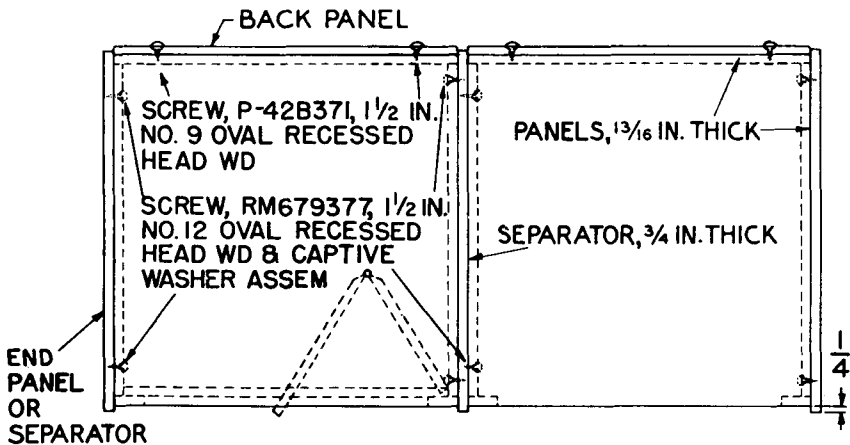

Fig. 1 — Typical Layout
- Screw holes are aligned to facilitate assembly in the field. When assembled, the sides of the booth unit shall make contact with the separators or panels along their entire length. Assemble booths in accordance with layout shown in Fig. 1.